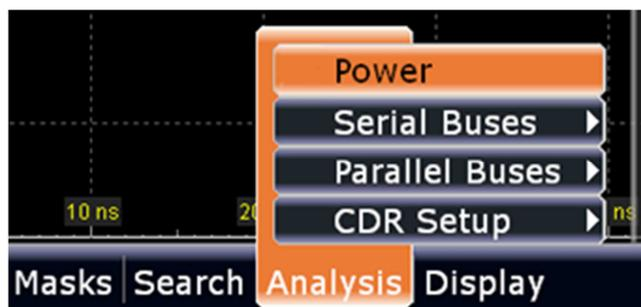

Figure 10: Selecting the Power option
- (1) Select the power analysis tool on the RTO by using the softkeys in the menu at the bottom of the screen; touch “Analysis” menu -> “Power”, as shown in Figure 10.